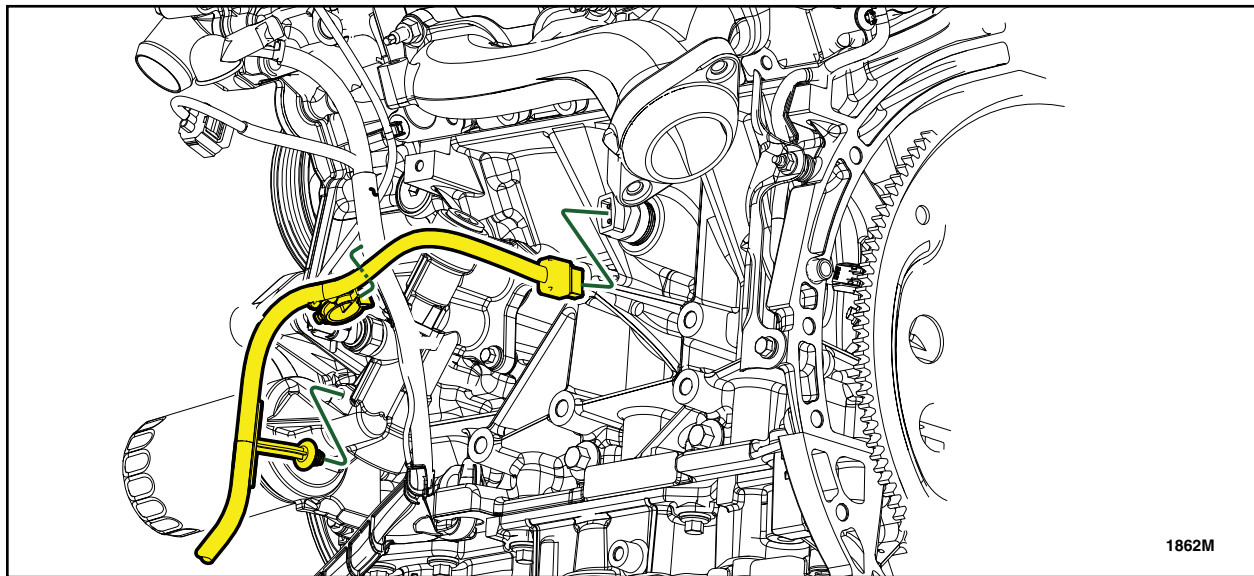

FIGURE 7a
3. Remove and discard the wire assembly. See Figures 7a, 7b, 7c and 7d.
6. Install the *new* wire assembly in the vehicle following the same routing as the wire assembly that is being replaced. See Figures 7a, 7b, 7c and 7d.